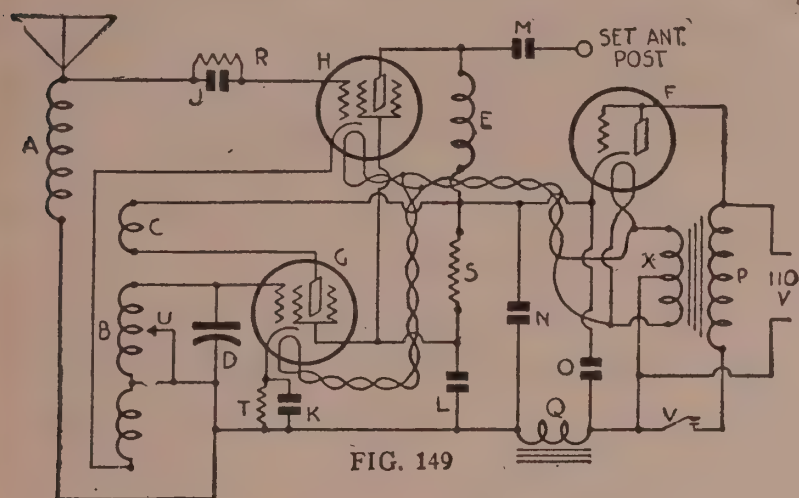

FIG. 149
**The Superheterodyne Short-Wave Converter:** One of the best ways to make use of any broadcast receiver, having at least two and preferably three screen grid tubes, is to employ the all-electric (A.C.) superheterodyne converter illustrated in Fig. 149. A word of warning, however. The converter does not amplify short-wave signals. All that it does is convert the signals into a form suitable for amplification by the regular broadcast circuit. If the broadcast set is lacking in radio-frequency amplification no worth-while results can be obtained.
As a study of the wiring and picture diagrams of Figs. 149 and 152 will show, the type '27 tube in socket F serves as the rectifier and together with the filter system composed of the electrolytic condensers N and O and the filter choke Q furnishes the converter with B current. Incidentally, additional money can be saved by using the secondary winding of an audio transformer in place of the choke Q. Simply make